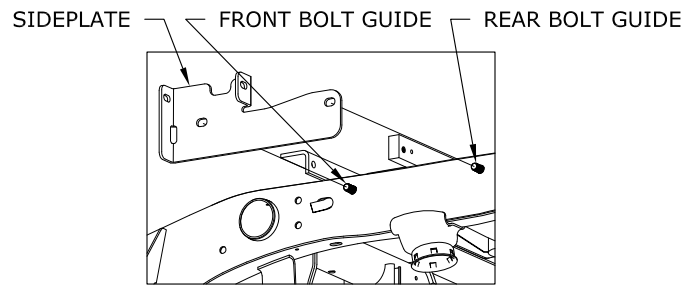
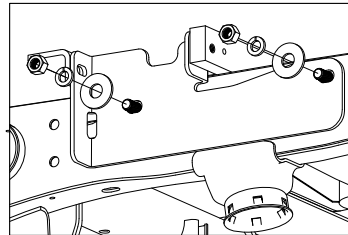
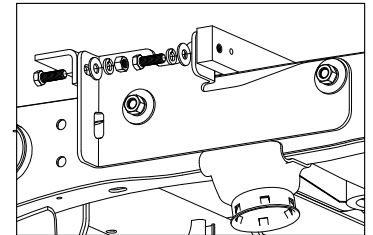

FIGURE C9: View from outside of Driver Side Frame
FIGURE C10: View from outside of Driver Side Frame
FIGURE C11: View from outside of Driver Side Frame
3. **Install the side plates.** Place each side plate over the  $\frac{5}{8}$ " bolts held in place by the bolt guides, see figure C9. Attach the side plates to the frame with a flat washer, lock washer, and nut, see figure C10. Attach the side plates to the front and rear cross members with  $\frac{1}{2}$ " hardware as shown in figure C11. Do not tighten the  $\frac{5}{8}$ " or  $\frac{1}{2}$ " hardware at this time.